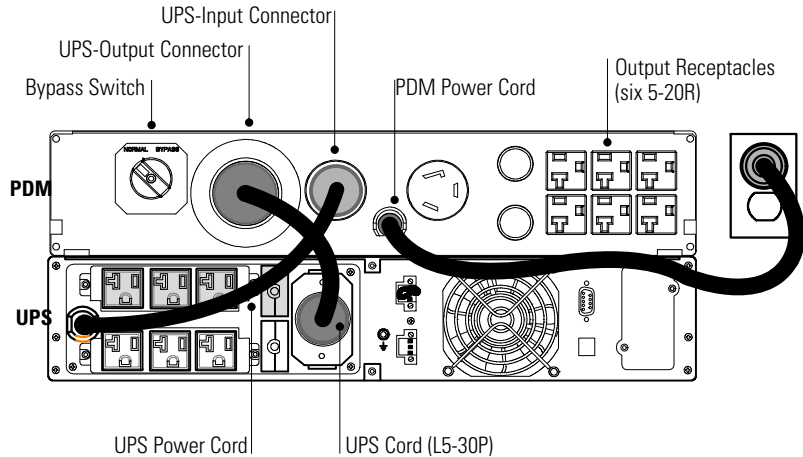

Figure 5. Typical Low-Voltage Installation [PDM2-LV-US-P1 (EPPDML3000R-2U-4) Shown]
1. Verify that the Bypass switch on the PDM is in the NORMAL position (see Figure 5).